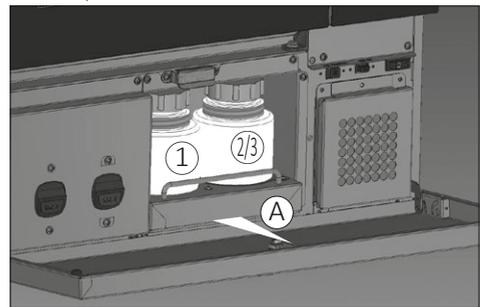

Fig. 11.1
The liquid containers are positioned at the bottom of the machine, inside a door closed with a key (Fig. 11.1 and 11.2).
Product containers (Fig. 11.1 and 11.2):
- 1) Open the door with the key and pull manually the drawer (A Fig. 11.1).